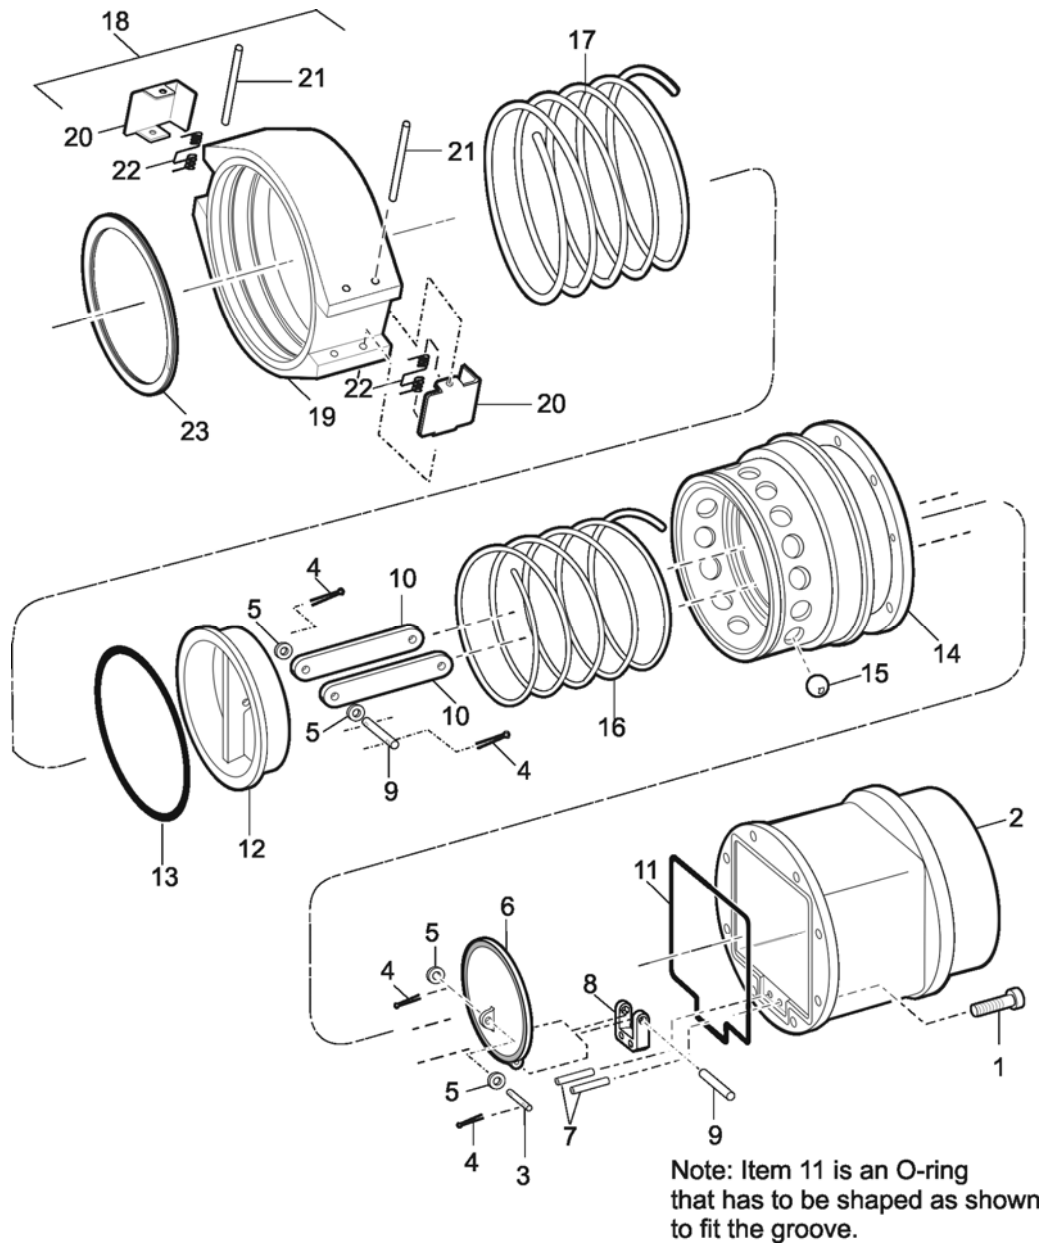

Figure 2 – 47584-1, -2 & -3 Female Half QD
3.2 Female Half – 47584-1, -2 & -3 - Refer to Figure 2.